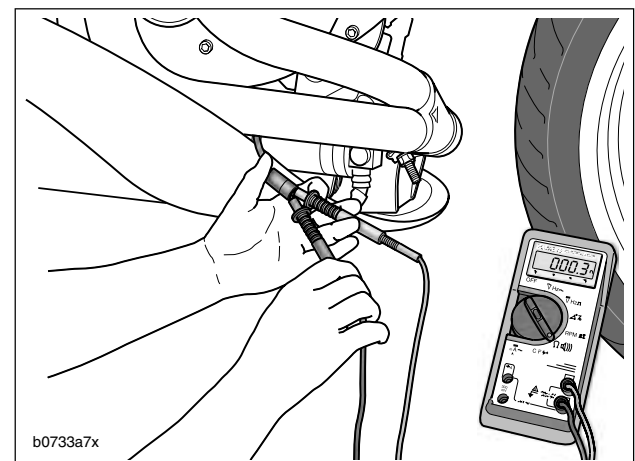

Figure 7-21. Check for Stator Resistance
4. See Figure 7-21. Remove ground lead. Insert lead into the remaining stator socket.